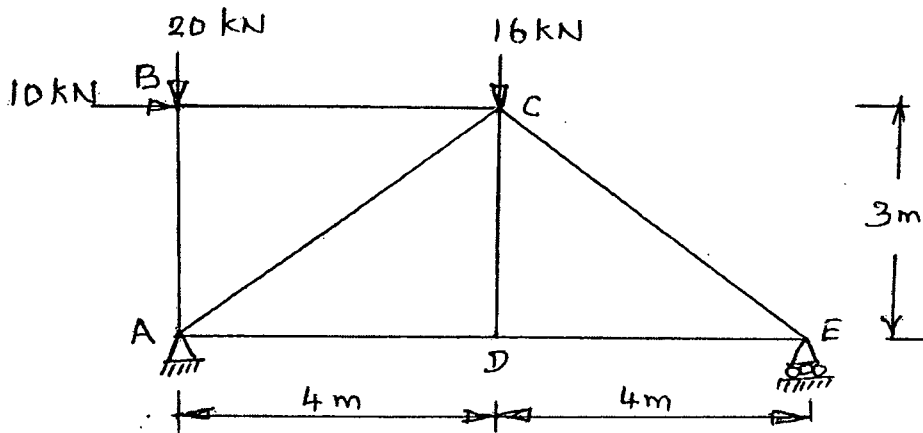

Fig. Q 11.
11. Determine the member forces for the truss shown in Fig.Q.11 by method of joints.